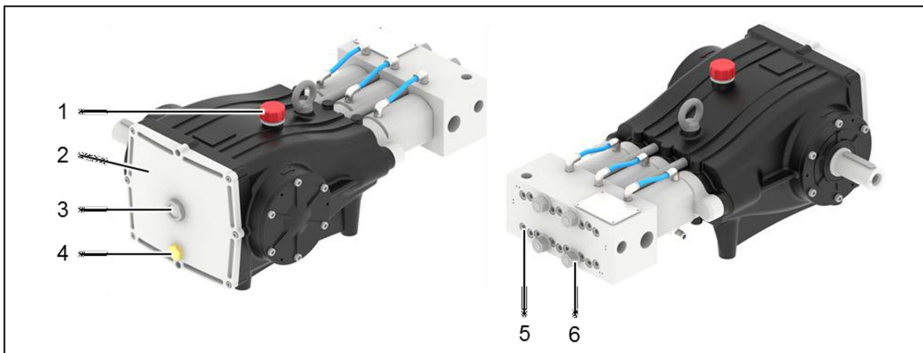

Figure 17: Components to be checked
1. Keep an oil container of sufficient size on hand to collect the used oil leaking from the screw cap (Figure 17): Position 4).
2. Unscrew the oil drain plug (Figure 17: Position 4).
3. Unscrew the oil breather plug (Figure 17: Position 1).
5. If necessary, clean the oil drain plug (Figure 17): Position 4) from metal residues.
6. If metal residues are present in the oil, unscrew the crankcase cover (Figure 17): Position 2) and check the inside of the crankcase for any damage.
7. Screw the oil drain plug back in (Figure 17): Position 4).
10. Refit the crankcase cover (Figure 17): Position 2; if it has been opened).
11. Fill with the prescribed amount of oil (Table 7:Oil quantity) according to specification (Table 13:Oils) through the oil filling nozzle (Figure 17: Position 1).
12. Check the oil level via the sight glass (Figure 17): Position 3).
13. Screw the oil breather plug back on (Figure 17): Position 1).